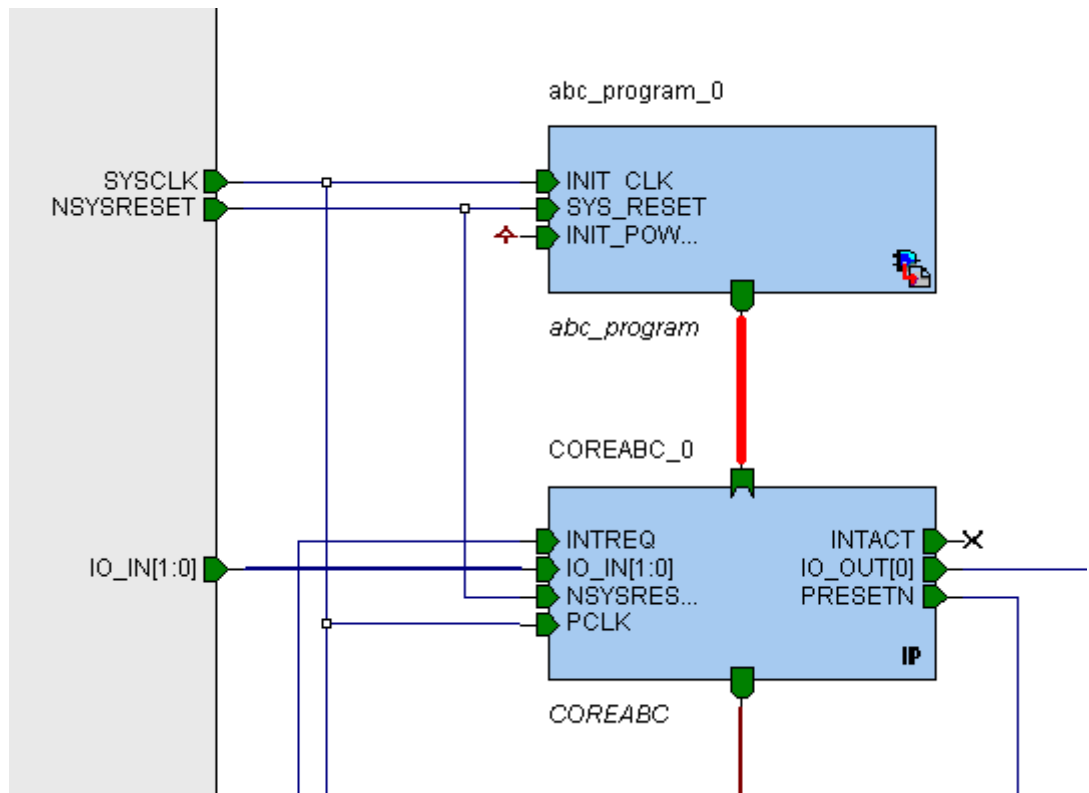

Figure 7-7 • Connect Initialization Client's Signal
9. Select the **Initialization client instance** and choose **SmartDesign > Auto Connect Selected Instance(s)** and SmartDesign will connect the CoreABC's slave InitCfg slave interface to the initialization client's master interface. Manually connect the remaining initialization client's signals, as shown in Figure 7-7.